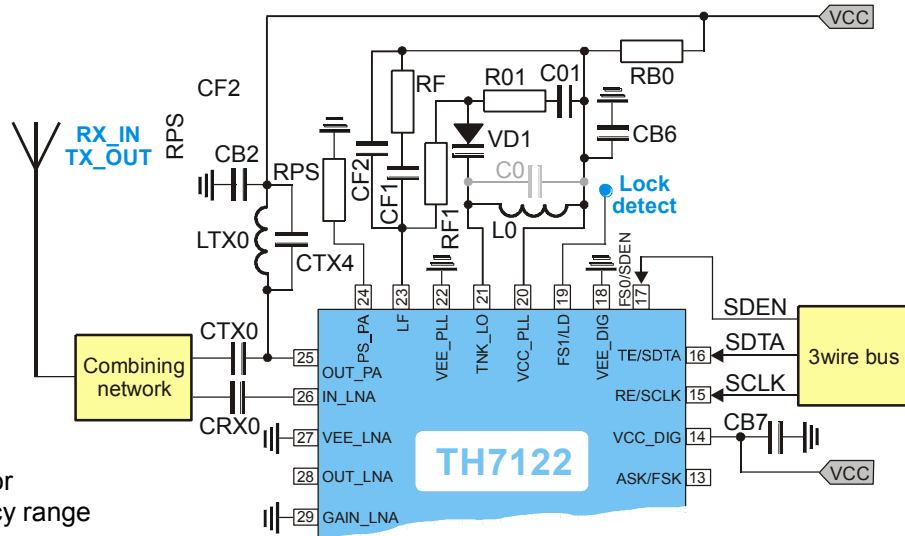

Fig. 18: VCO tank circuit for extended frequency range
8.1 Board Component List (Fig. 18)